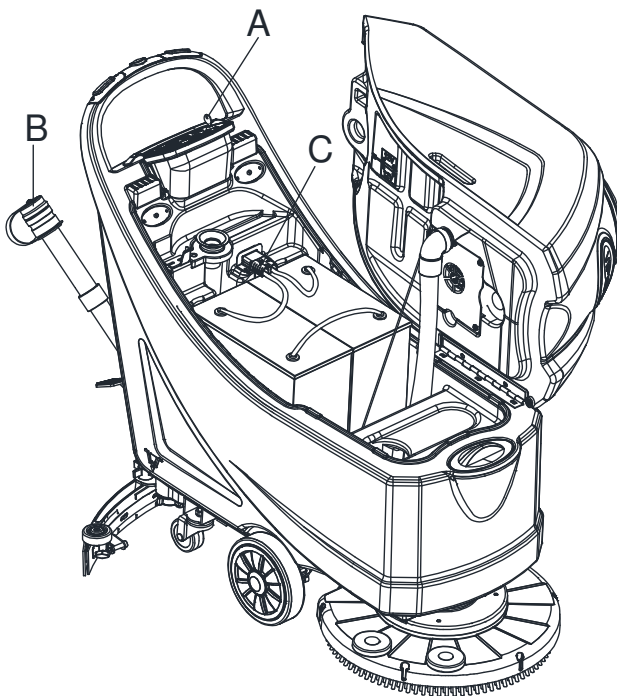

Figure 23
4. Clean the recovery tank lid (A), recovery tank (B), clean water tank (C) and the float ball filter support frame (E). Empty the recovery tank with the drain hose (B, Figure23).
2. Disconnect the power supply cable(C, Figure23) from the electrical mains.